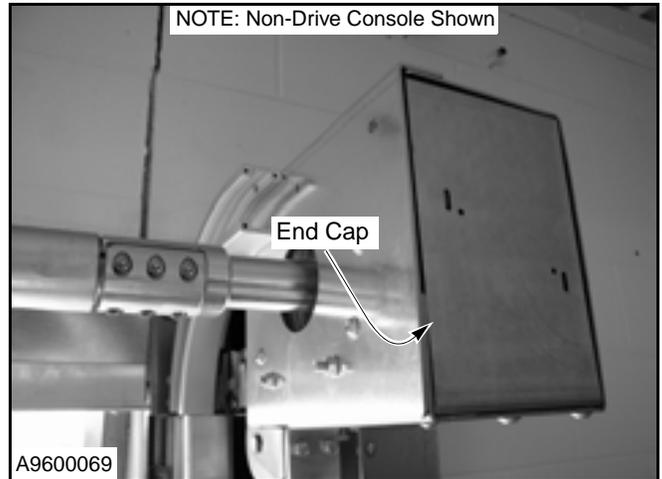

Figure 63
4. Remove the end cap from the console assembly to expose the upper end of the spring strap. (See Figure 63.)